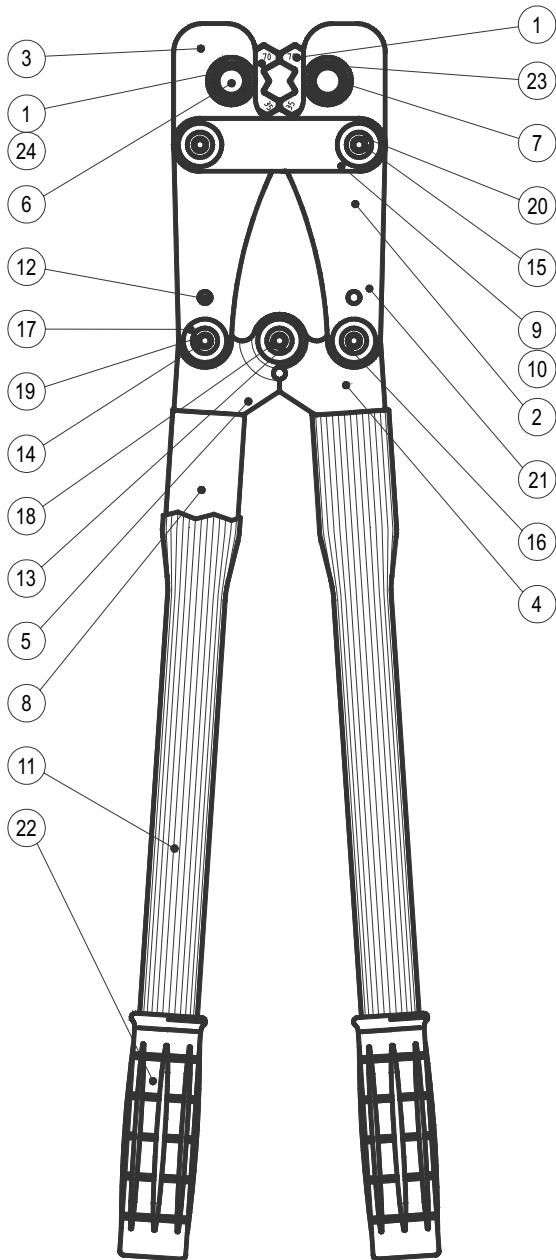

FIG. 1
5. PARTS LIST (Ref. to Fig. 1)